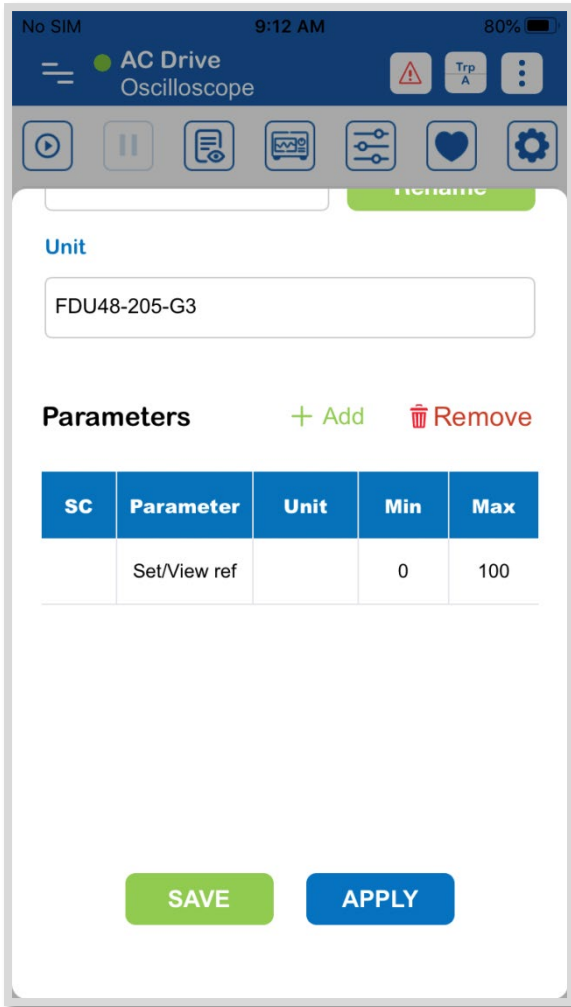

Figure 34: Oscilloscope favourite parameter list.
- **Save:** On clicking the save button (see figure 34), the selected parameter will be saved in list. To abort the save process, user needs to press the cross button located in top right corner.
- **Apply:** On clicking the apply button (see figure 34), the favourite list parameters shall be selected to display in the oscilloscope graph.